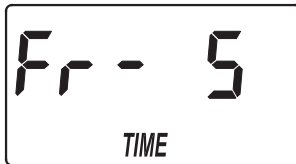

FIG. 26
1. If you completed the previous step, the fast rinse time adjust screen should show in the display (See Figure 26). Otherwise, press and hold for 3 seconds the SELECT button, until the display shows "000 - -", then press the SELECT button five times to display the fast rinse time adjust screen.